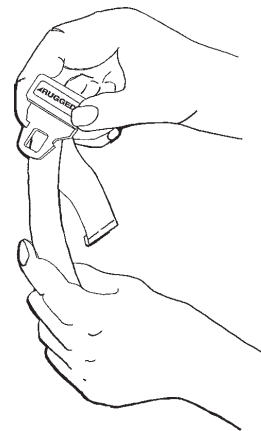

Figure 44
- **To lengthen the restraint**, grasp the buckle latch plate, turn it at an angle to the webbing, then pull it out (Figure 44). A hemmed tab at the end of the webbing prevents the latch plate from coming off of the strap.